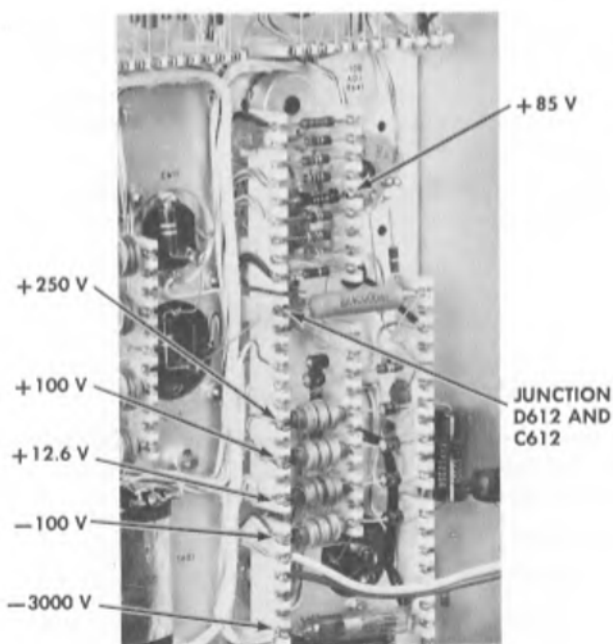

Fig. 6-1. Location of Power Supply test points.
To check the secondary circuit of T601, measure the voltage at the junction of D612 and C612 (Fig. 6-1). This voltage should be approximately +500 volts. Check the secondary winding of T601 and the voltage doubler circuit if the voltage is not correct. A reading of approximately 600 volts or more at the junction of D612 and C612 indi-
1. **—100 ADJ.** With the dc voltmeter measure the output voltage of the —100-, +12.6-, +100-, +85-, +250-, and —3000-volt supplies at the points indicated in Fig. 6-1. Set the —100 ADJ. control so that the —100-volt supply is within 2% and the other supplies within 5% of their rated values.